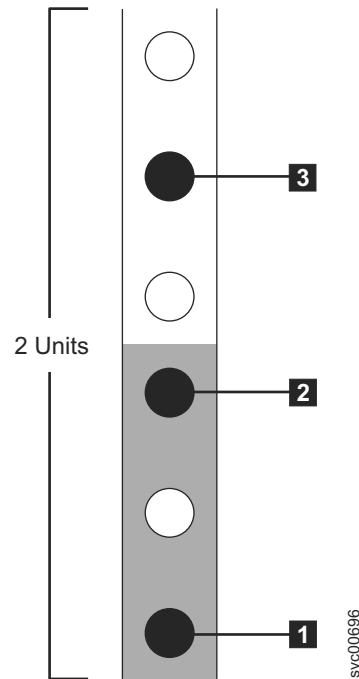

Figure 22. Hole locations in the back of the rack
1. Figure 22 shows two rack units with the back mounting holes identified at the rear of the rack.